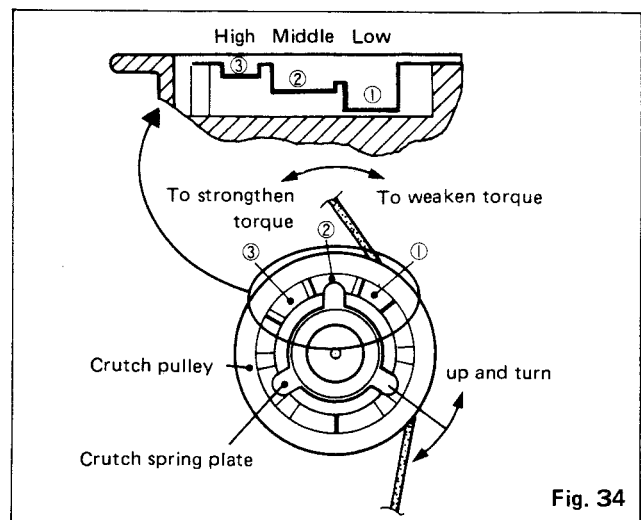

Fig. 34
2. Should playing torque exceed this range, check whether or not rubber parts and rotating parts are smeared with dust or oily substances. Should the torque be below this range, lift the clutch spring plate to position ③ in Fig. 34; should it be above the range, lower the plate to position ①.